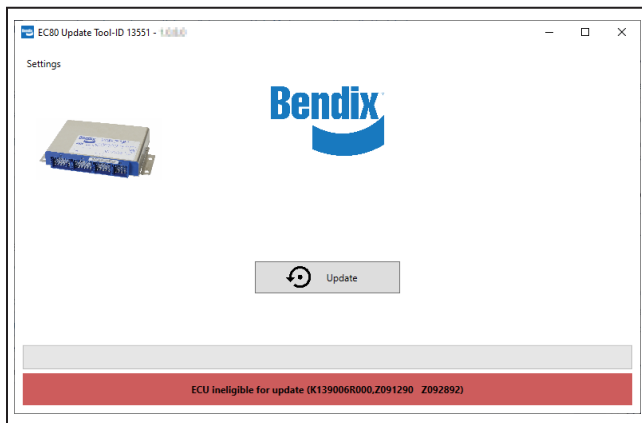

Figure 7 – ECU Ineligible for Update
8. *Figure 7* shows the Electronic Control Unit (ECU) is not eligible for the update. No further action is required.